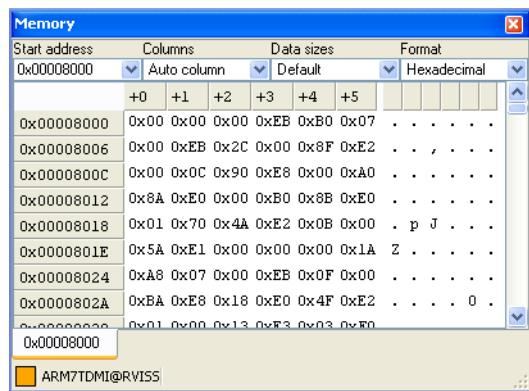

Figure 11-30 Example Memory view
4. Set the Start address to the start of the memory area of interest. Figure 11-30 shows an example: